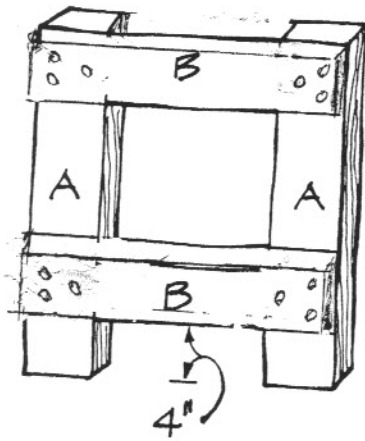

Figure 2
CONNECT SIDES – See Figure 2
1. Stand both Side Supports up with the screw heads facing inside. The Legs will be facing outside. See Figure 2.
2. Attach the two completed sides using Center Support C as shown in Figure 2. Screw 2 – 3 ½” screws through lower Side Support B and into the end of Center Support C.